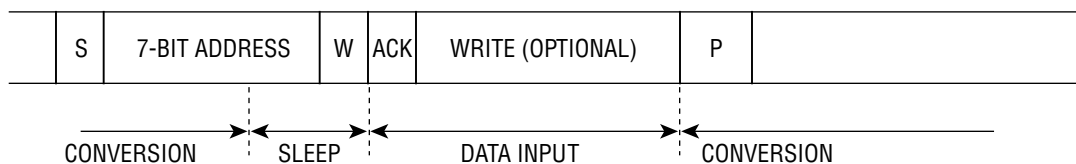

Figure 8. Start a New Conversion without Reading Old Conversion Result
At the conclusion of a conversion cycle, a Write cycle can be initiated. Once the Write cycle is acknowledged, a stop (P) command initiates a new conversion. If a new configuration is required, this data can be written into the device and a stop command initiates a new conversion, see Figure 8.